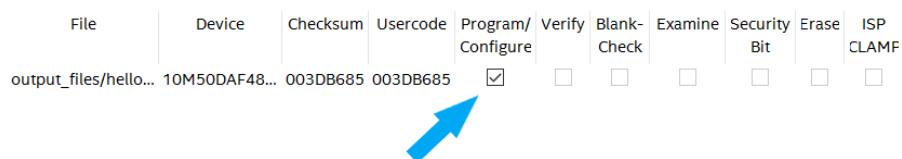

Figure 26: Program/Configure Checkbox
- ❑ In the first row under **Program/Configure** click in the check box as shown in Figure 26 above.